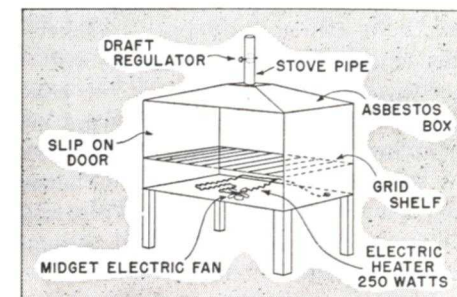

FIG. 18. A drying oven.
▶ In larger shops, where work of this sort may be done more often, an outfit like the one shown in Fig. 18 may be used. The asbestos-lined box